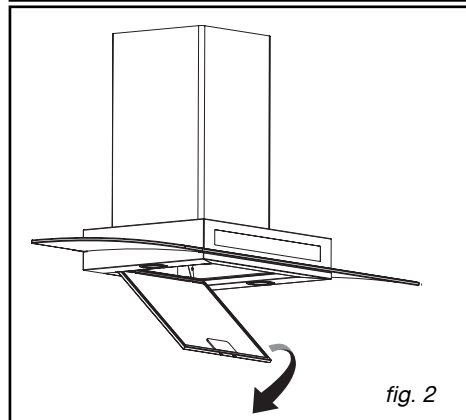

fig. 2
- Tip the filter cartridge downward (fig.2).